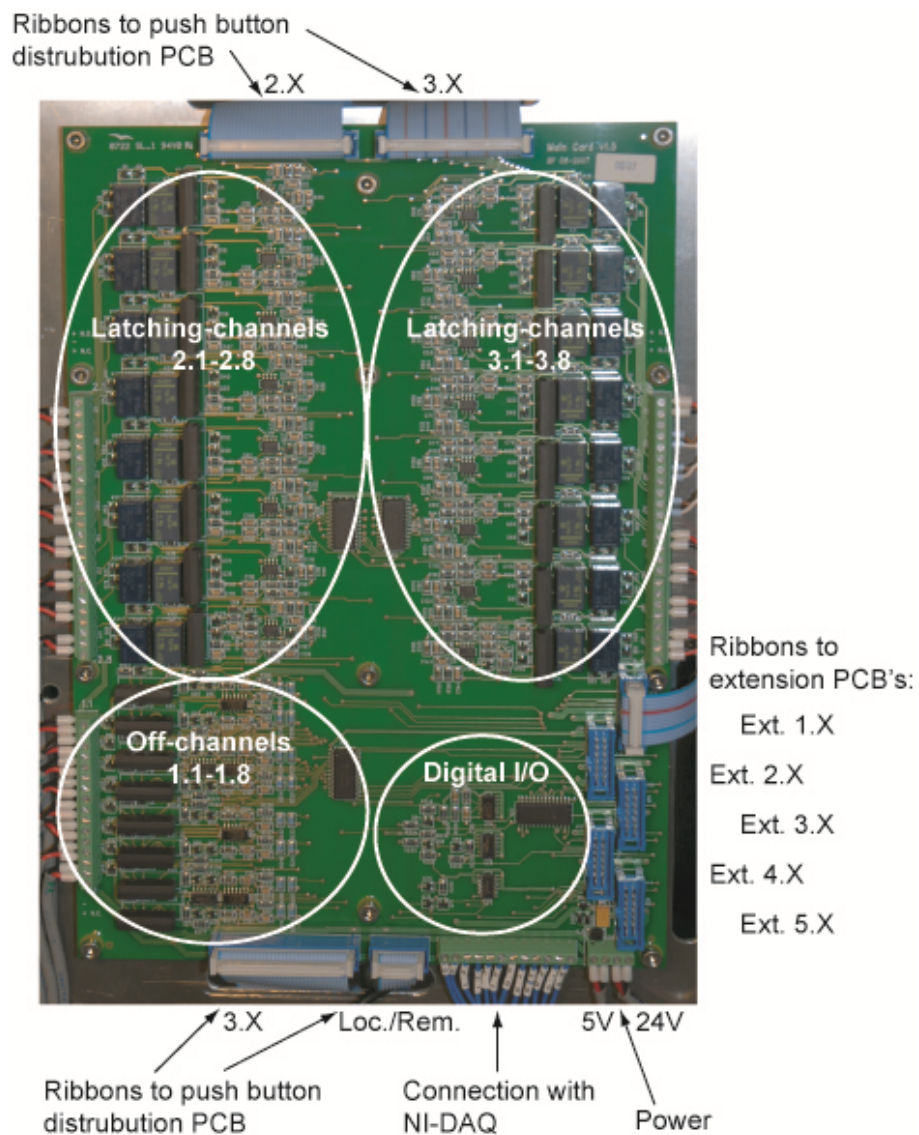

Figure 9. Main circuit board.
2.2. The Control Unit (CU)
The Control Unit (CU) is a separate cabinet and contains all the electronics to control and read the status of the GHS (see Figure 8). The CU is preferably placed close to the cryostat. All switching (valves, pumps, compressors etc) is done through a central (expandable) relay board (see Figure 10 and Attachment 7.4). On the main circuit board the relay control channels are arranged in three groups of eight channels each. Except the circuitry for these channels, this board also contains the digital I/O circuitry (see Figure 9). The main board can be expanded with extension circuit boards, each containing eight control channels (see Figure 10). In principle it is possible to control up to 64 channels. A standard BF-H400 system has one main board plus one extension card, for a total of 32 channels.